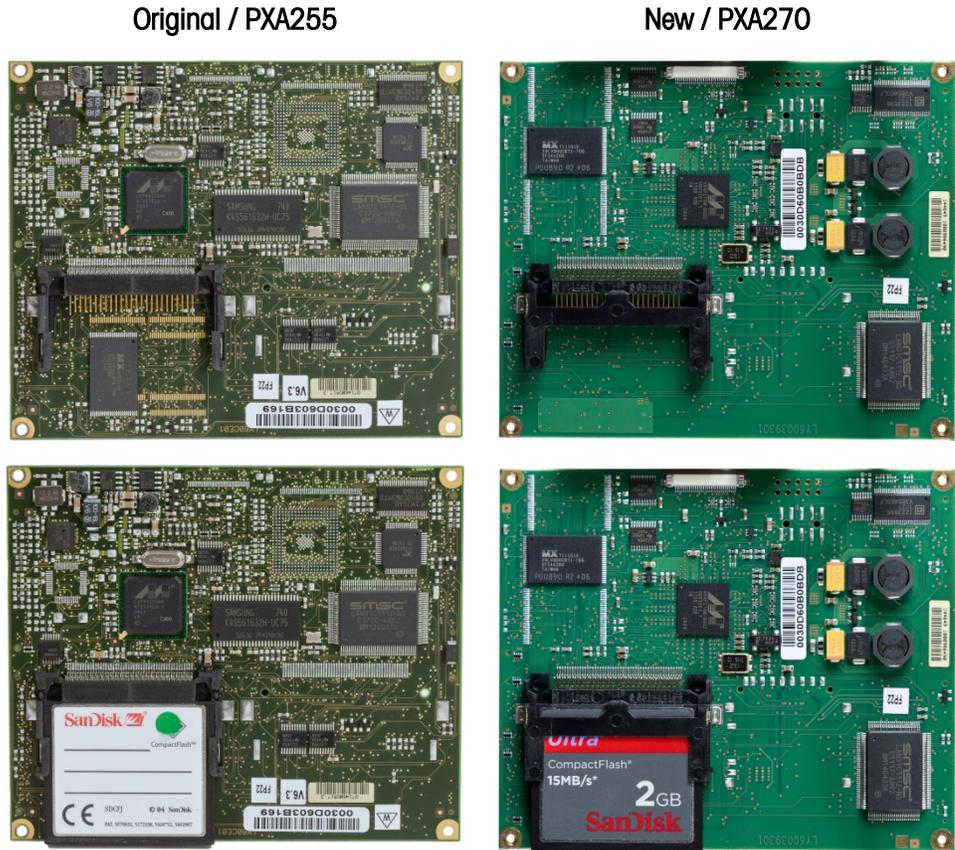

Figure 4-50: Original and New ETX Boards
- Two types of master reset are possible, depending on the position of switch S2 (shown in its OFF position in Figure 4-50): A full reset **including** metrologically significant scale configuration data, and a reset that **preserves** scale data.
3. Press and hold the MASTER RESET button (Figure 4-50).